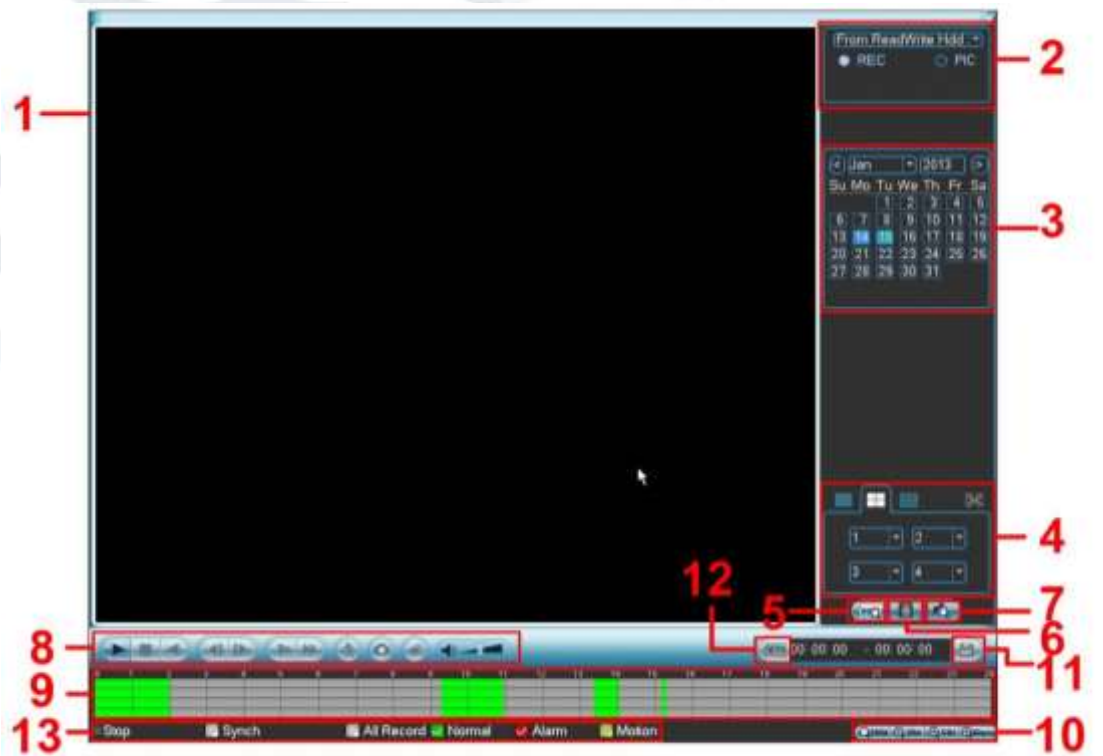
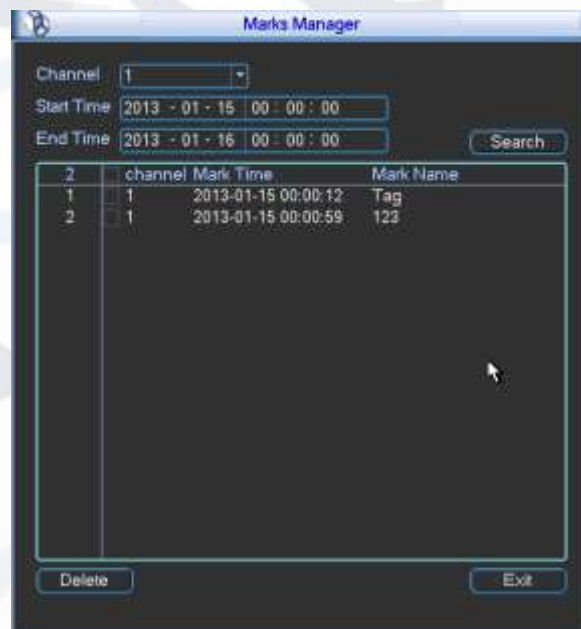

Figure 4-7
Figure 4-11
- **Playback Mark:** During the 1-window playback mode, click the mark file list button , which you can see in Figure 4-7, and you can go to mark file list interface. Double click on mark file, you can begin playback from the mark time.
- **Mark Manager:** Click the mark manager button  on the Search interface (Figure 4-7); to go to the Mark Manager interface. See Figure 4-11. System can manage all the record mark information of current channel by default. You can view all mark information of current channel by time.